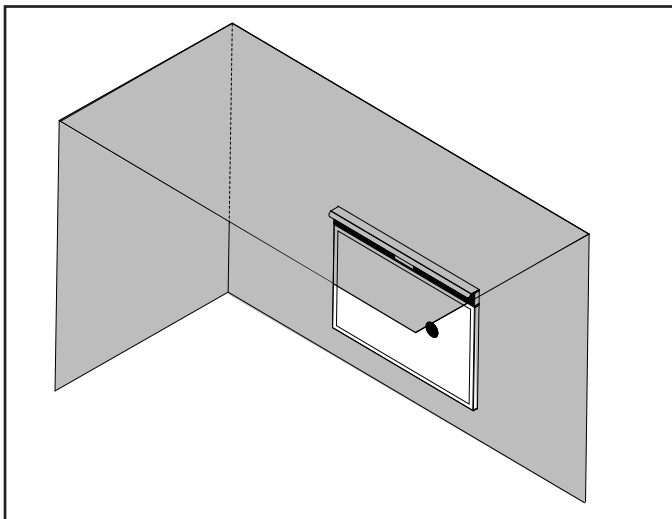

Figure 2.1 Two Sided Enclosure Right Angle Example
2. Within a partial enclosure which includes an overhead cover and no more than two side walls. These side walls may be parallel, as in a breezeway, or at right angles to each other see Figures 2.1 and 2.2; or